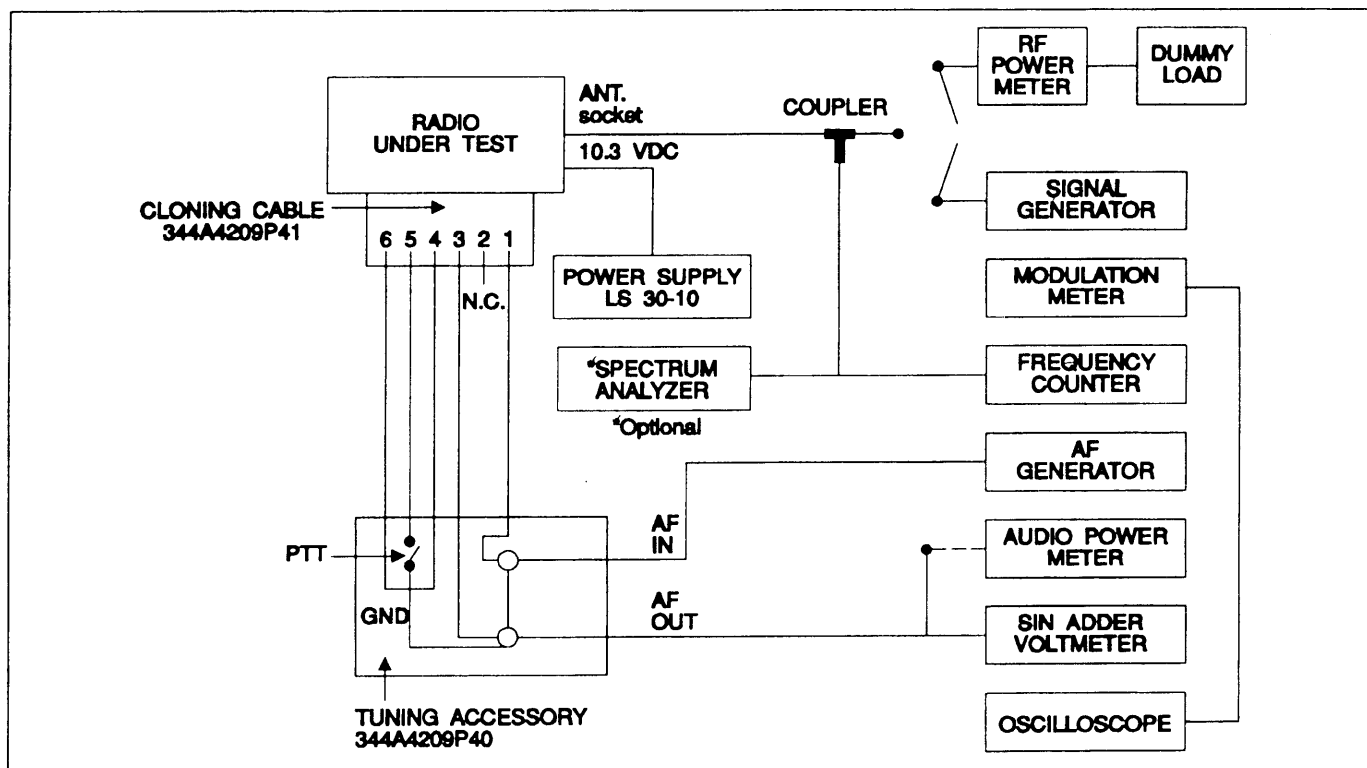
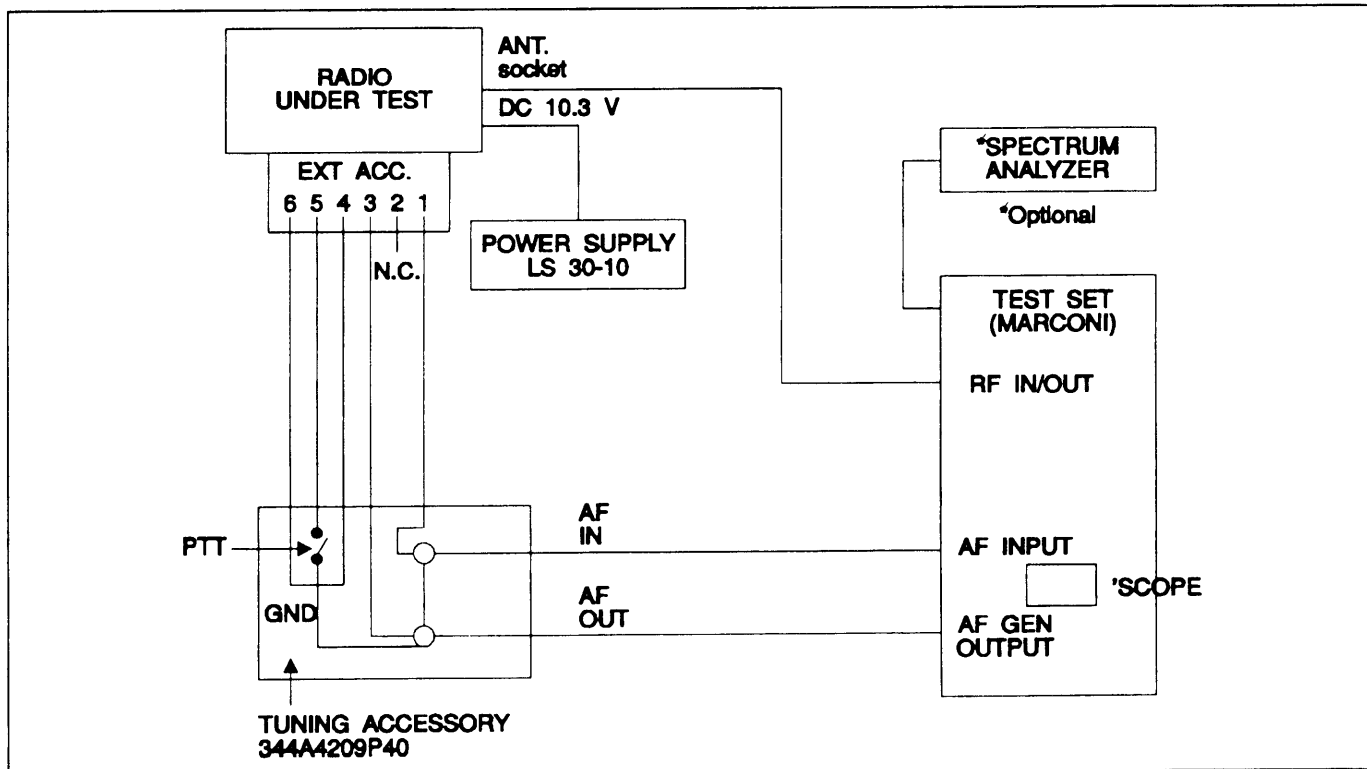

Figure 4 - Discrete List Test Equipment Setup
Figure 5 - Test Set Setup
Refer to Figure 4, Discrete List or Figure 5, Test Set.
2. Connect the oscilloscope to the deviation meter, refer to Figure 4.
1. Connect a spectrum analyzer and RF power meter to the antenna (ANT) socket, refer to Figure 5.
1. Connect the RF signal generator to the coupler as shown in Figure 4.